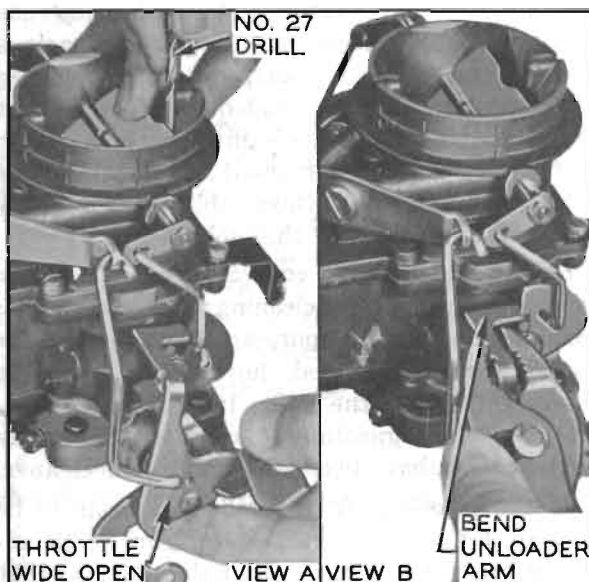

Figure 3-69—Choke Unloader Adjustment
If the engine becomes flooded for any reason, the choke valve can be partially opened by depressing the accelerator to the full extent of its travel. This causes an arm on the throttle lever to contact and rotate the choke unloader plate. This pulls down on a link and forces the choke valve partially open. See figure 3-69.
8. Hold choke closed with a light pressure. Fully open throttle so that unloader arm on throttle lever kicks choke partially open. Measure clearance between upper edge of choke valve and wall of air horn using a No. 27 drill (.144"). If clearance is not as specified, correct by bending unloader arm on throttle lever. See figure 3-69.